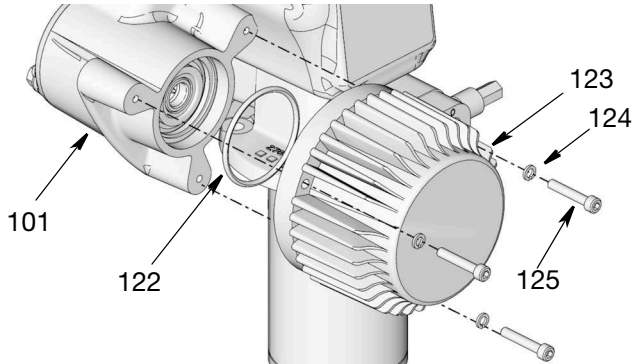

FIG. 59
2. Apply a thin layer of grease to the o-ring (122). Install o-ring in the motor (123) (FIG. 59).
3. Install the new motor (123) using the screws (125) and washers (124) (FIG. 59). Use a wrench to tighten the screws securely. Torque to 17-19 ft-lb (23 - 25 N•m).